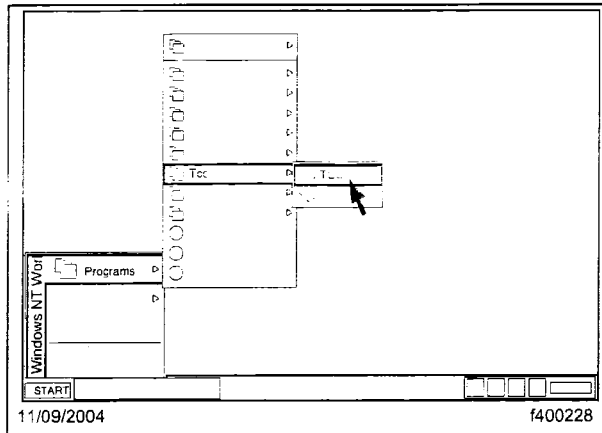

Fig. 7, Start the TCO Program
16. Go to PROGRAMS and select the TCO option. See Fig. 7.